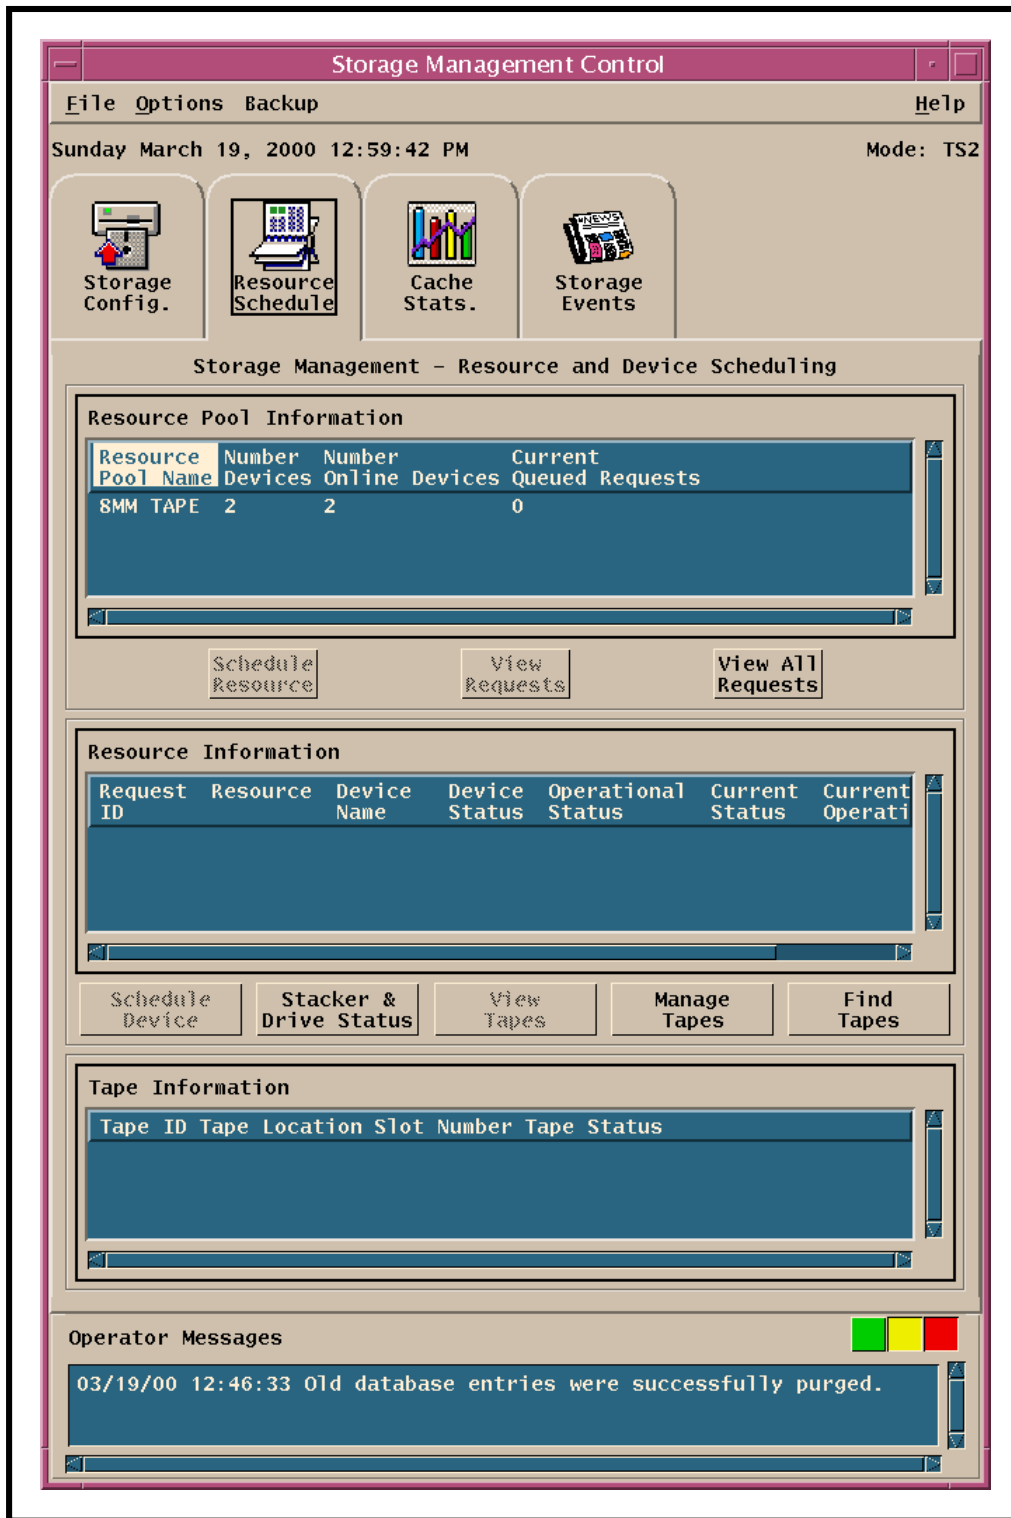

Figure 19. Resource Schedule Tab (Storage Management Control GUI)
- The **Storage Management Control** GUI **Resource Schedule** tab (Figure 19) is displayed.